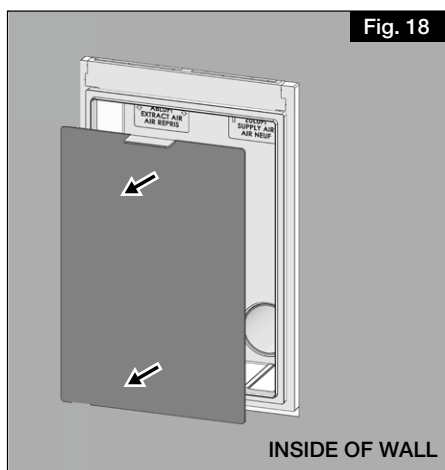

Fig. 18
1. Remove the inner protective cover from the wall installation element before installing the unit (see Fig. 18).